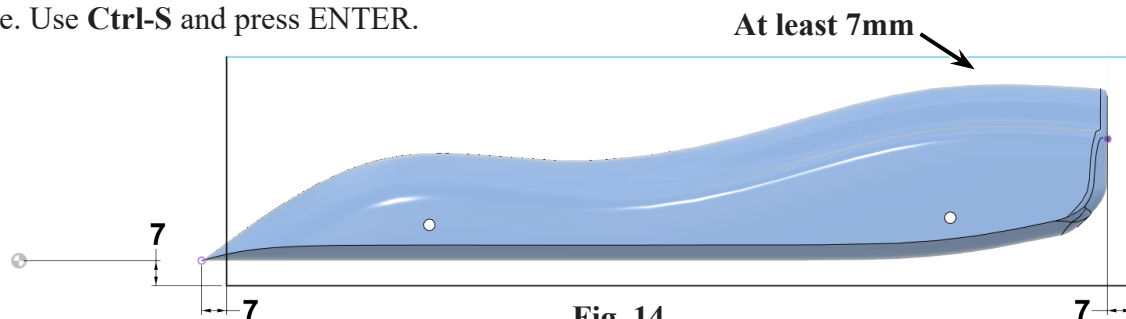

Fig. 14
Step 9. Click **Dimension**  (D) on the toolbar.
Step 10. Add dimensions, **Fig. 14**. If necessary, drag top of rectangle at least 7mm above top of car body. 6mm cutter has to pass between rectangle and top of car body. Unselect Dimension tool to drag.